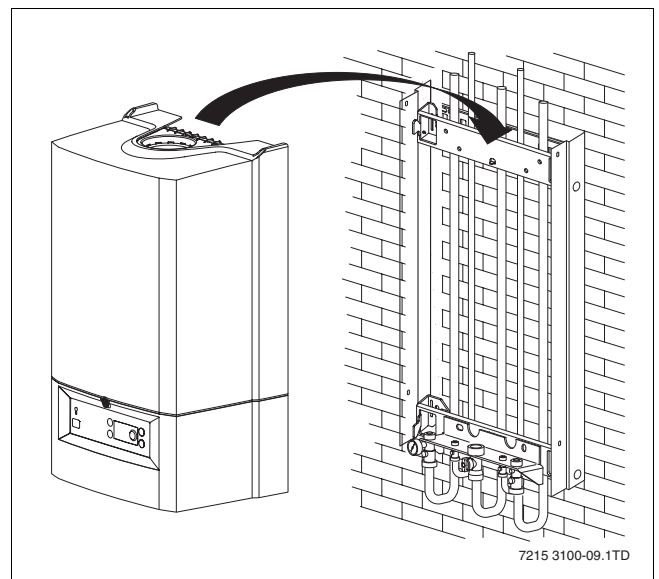

Fig. 9 Hanging the boiler
- Hang the boiler (→ fig. 9) onto the upper wall-spacing frame bracket.